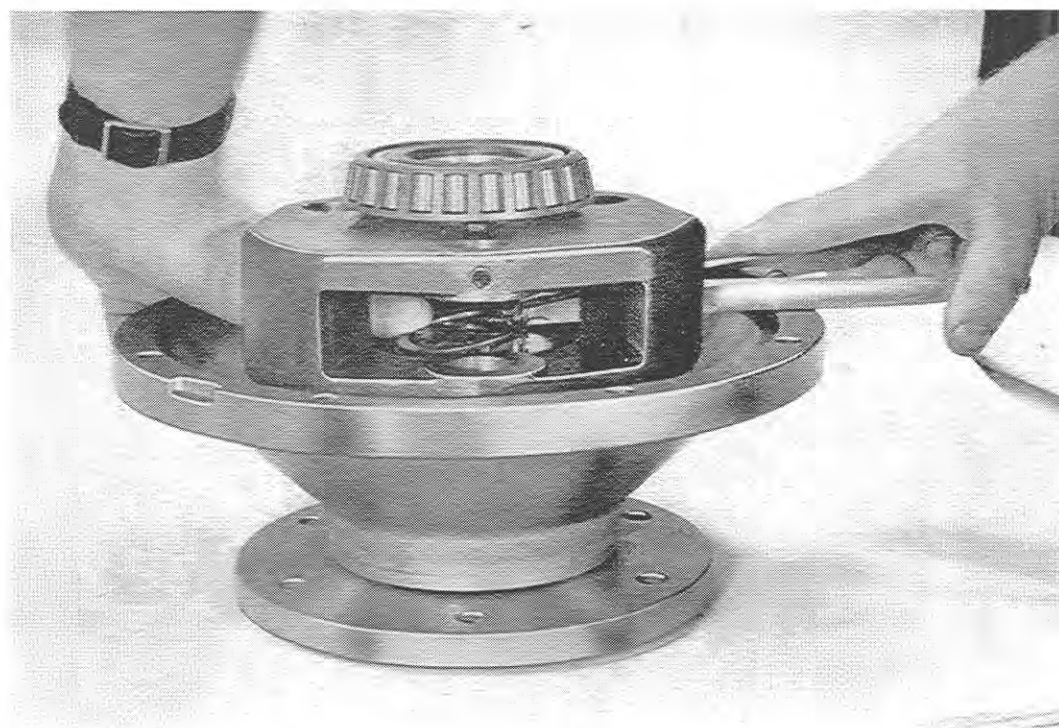

Fig. 2
- 4) Remove the circlip which locates the wheel axle in the reduction housing by means of the circlip pliers MAPU (Fig. 2).